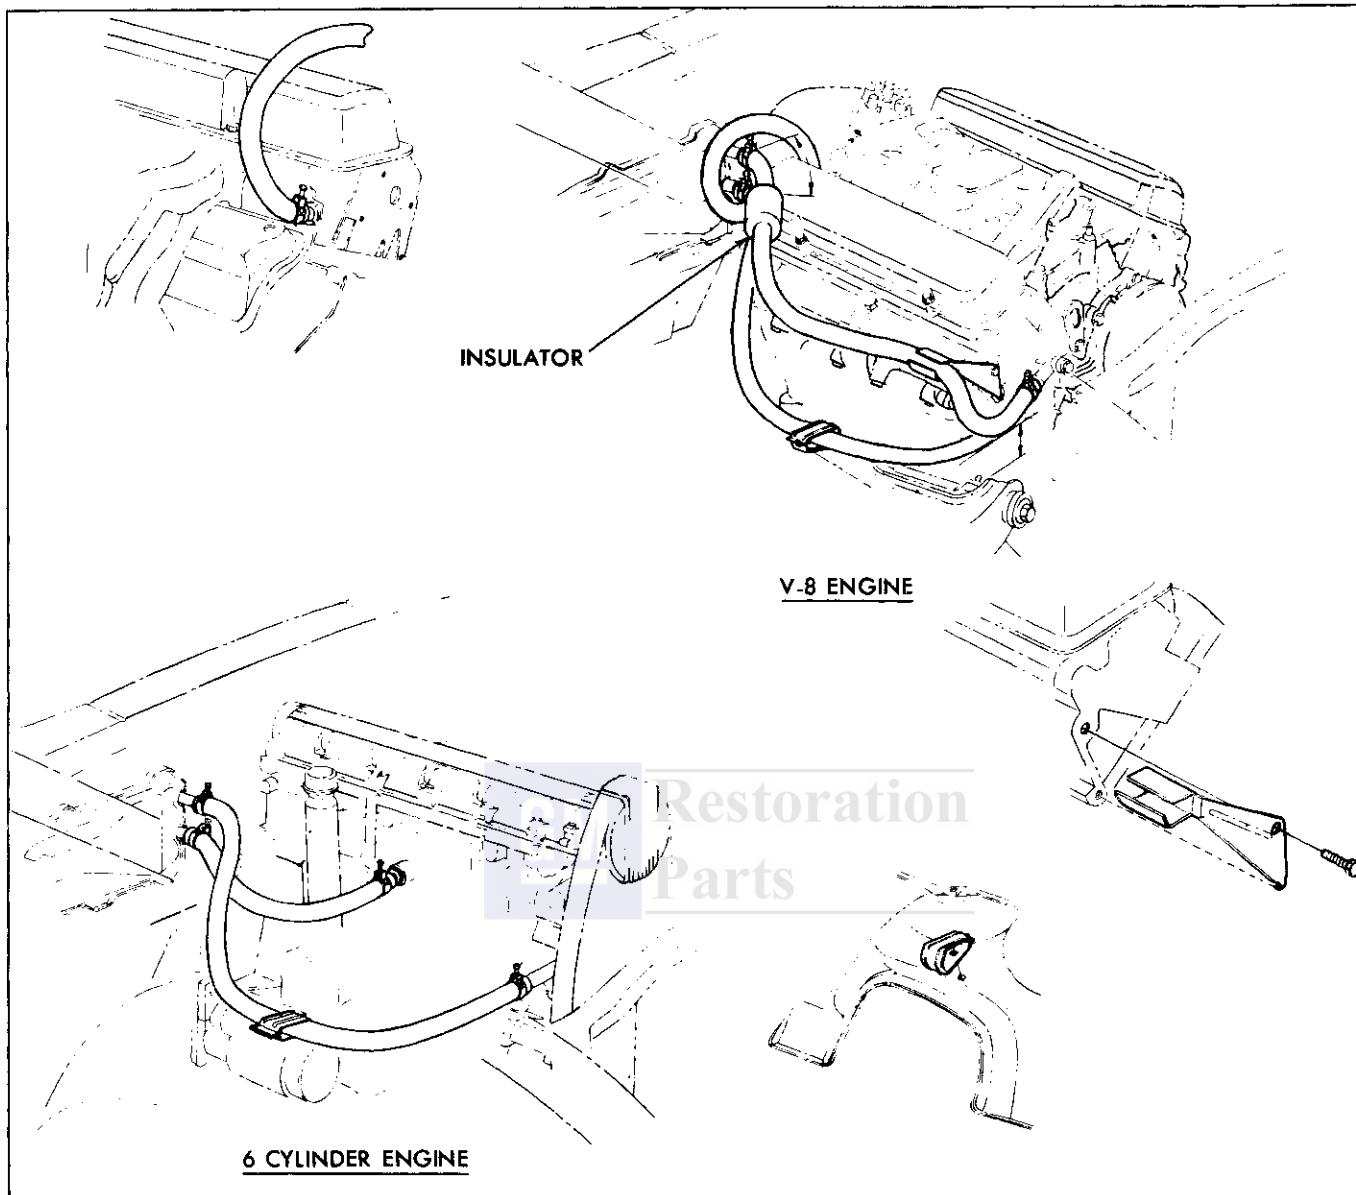

Fig. 1-9 Engine Compartment Details—Firebird
1. Disconnect battery ground and positive cables, and remove battery and tray (Fig. 1-9).